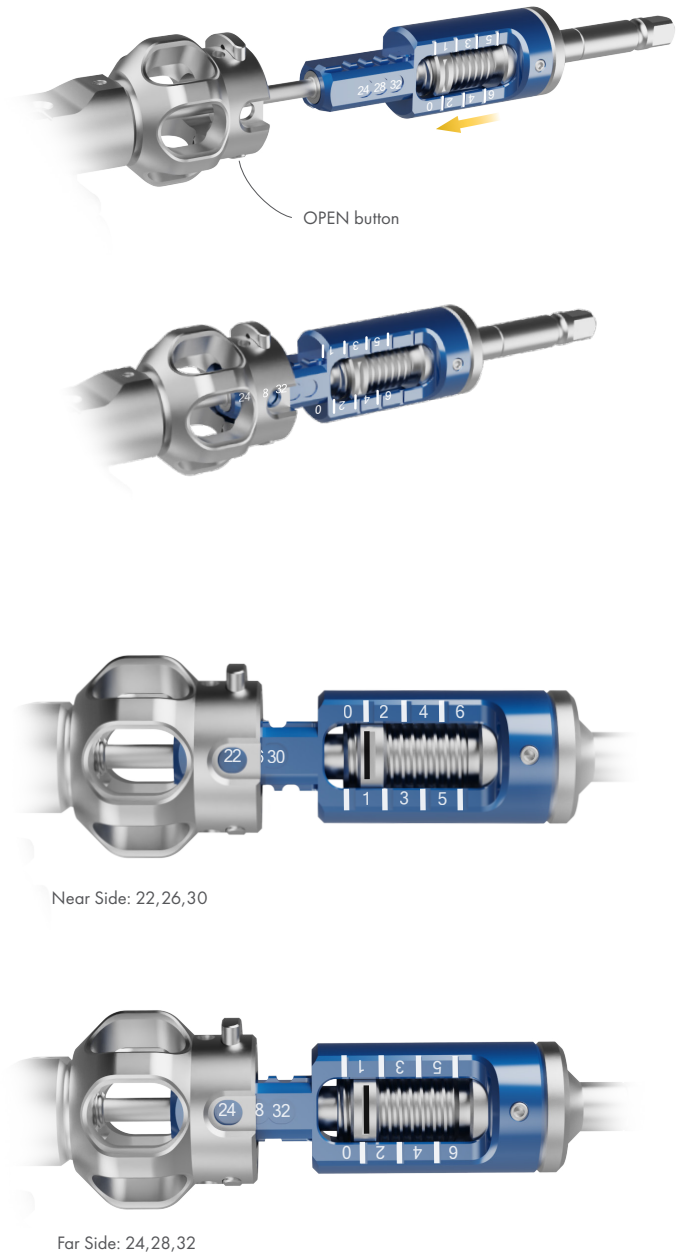

Fig. 9
**Note:** The selected implant length "L" as this value will be displayed in the Expansion Driver length display window. See Fig. 9 for reference.
Press and hold the OPEN button until the Length number shows through the Expansion Driver circle window and then release. The selected implant length will provide the hard stop seen by the Expansion Driver. (i.e. When L24mm cage is assembled to the Cage Inserter, the Expansion Driver will advance until Length number "24" is shown through the circle window of the Cage Inserter. (Fig. 9)